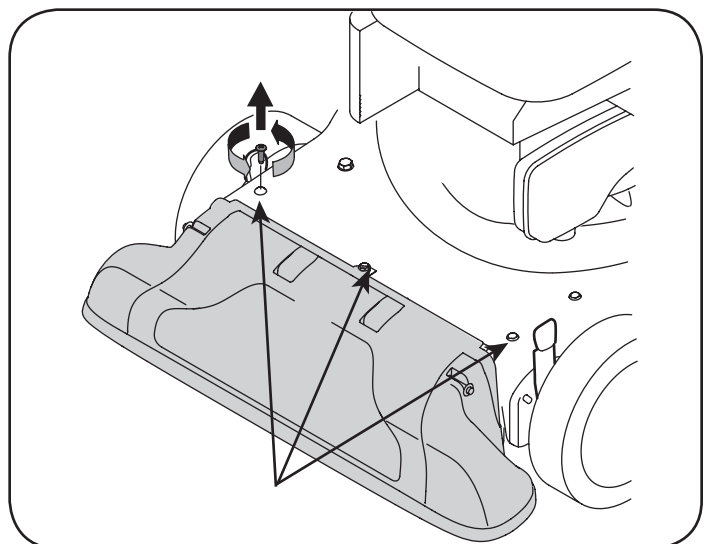

Figure 18
6. Remove the three screws on the upper housing that secure the nozzle cover. See Figure 18.